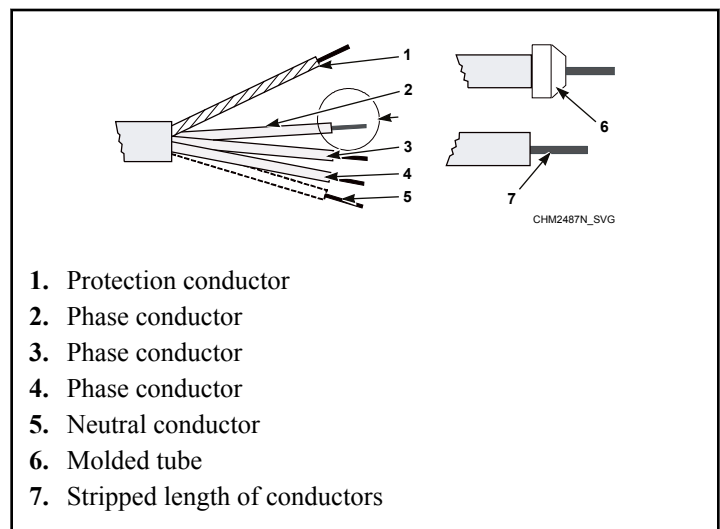

Figure 31
2. Strip the conductor ends. Refer to *Figure 31*. The protection conductor must be longer so it can be routed to the machine without tension.